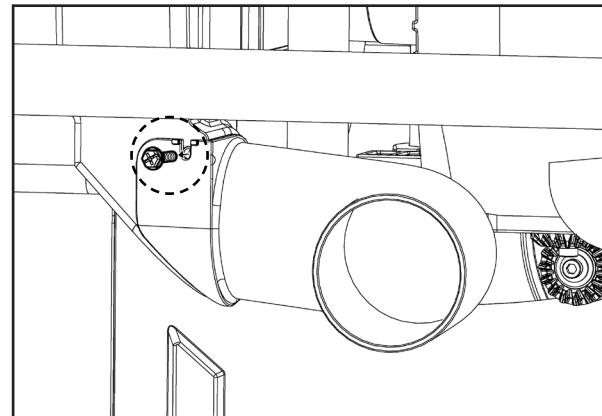

Figure 61
1. Remove the hex screw located in the back of the dust chute, using the supplied 3/16 inch Two-Way Allen Wrench (L Shape) HP23. See Figure 61.